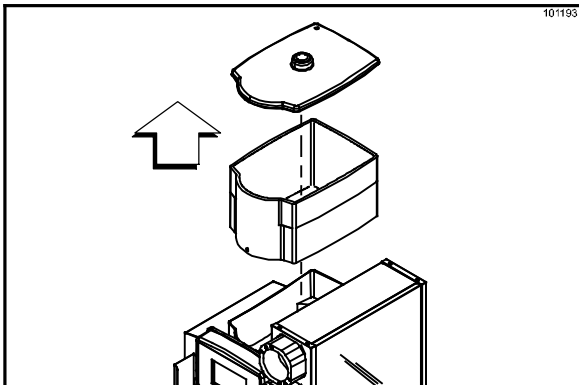

Figure 183
6. Remove the ice hopper and cover. Take them to the 3-compartment sink. (See Figure 183.)